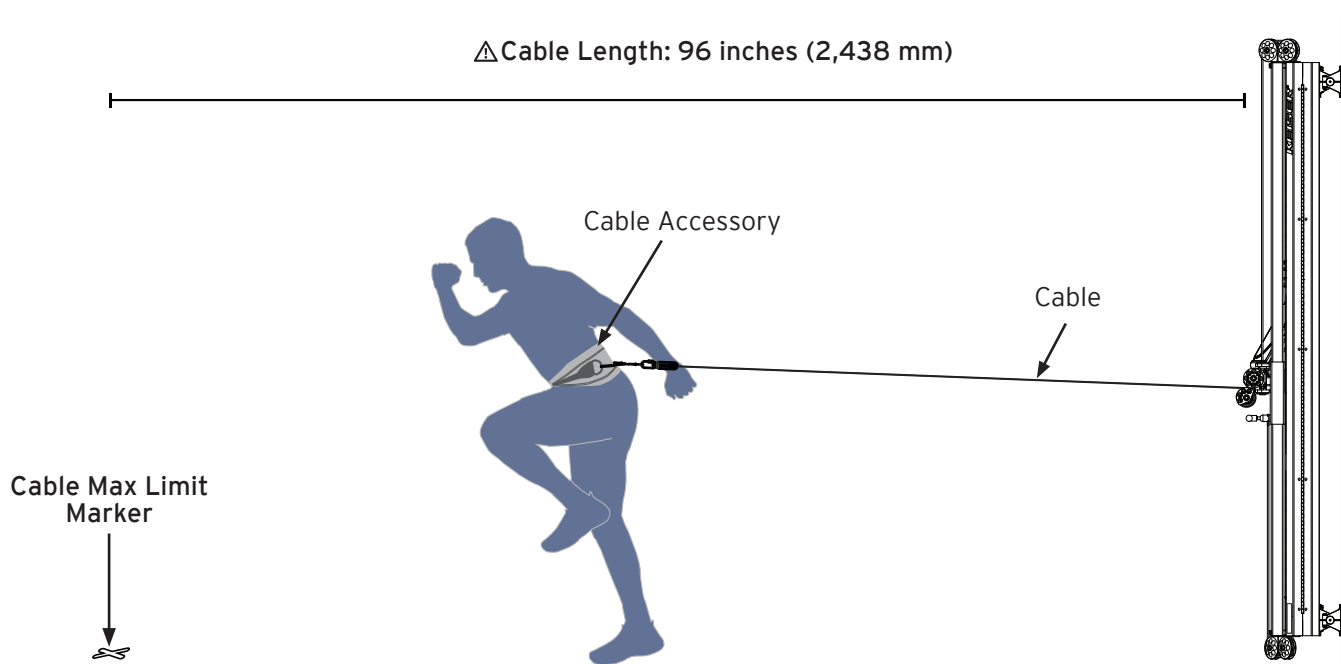

Figure 3. Cable Max Limit Illustration
2. **Mark your Cable Max Limit:** Secure your Cable Accessory to the Cable. Walk your Cable Accessory out until the stop is reached. This is your Cable Max Limit. Place a marker on the floor (i.e. tape, keys, or a water bottle) to indicate your Cable Max Limit (see Figure 3).